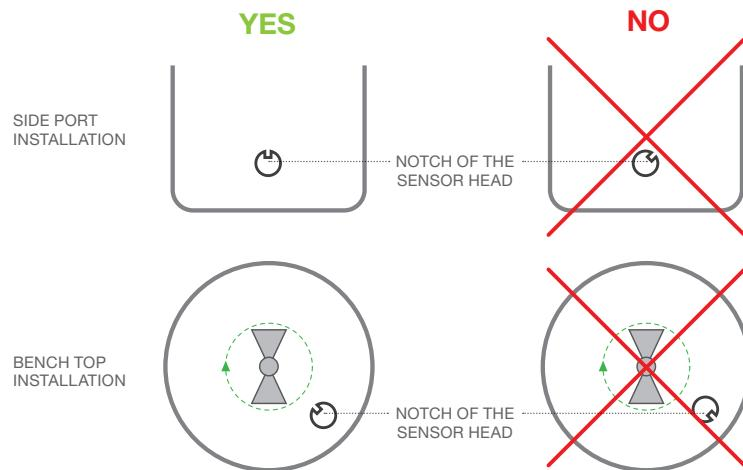

Figure 14: Mounting orientation of the sensor
- 6) Verify the sensor orientation (figure 14).
**NOTE:** For mounting from a side-port ensure that the notch of the VP8 connector is mounted facing upwards (figure 14).